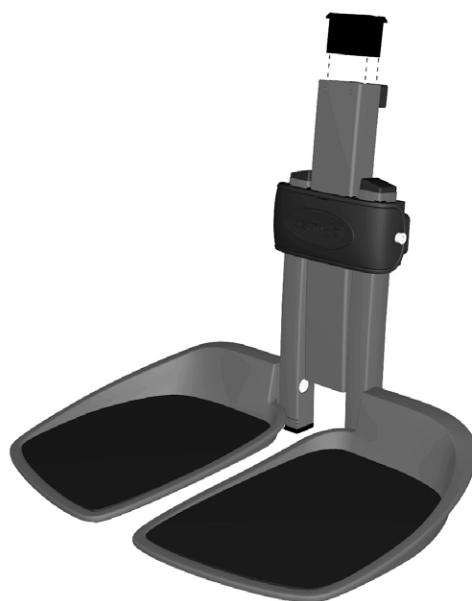

Figure 227. Slide bushing in the lower section of the legrest.
5. Remove the slide bushing in the lower section of the legrest, and at the same time use a suitable tool to press in the locking tabs on the bushing, located in the hole immediately below the top edge of the legrest. See fig. 227.
1. Fit the slide bushing in the lower section of the legrest, making sure the locking tabs on the bushing are securely fixed in the hole in the legrest. See fig. 227.